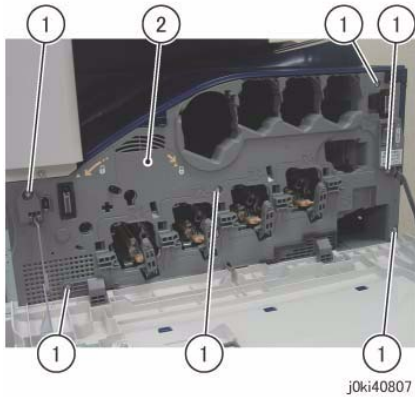

Figure 2 Remove the L/H Cover
6. Remove the Front Cover together with the Inner Cover. (Figure 2)